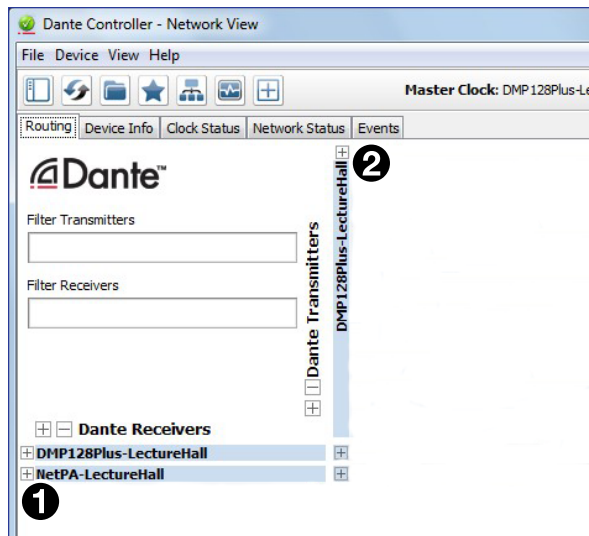

Figure 21. Network Devices
After the receive channels (❶) of the NetPA AT are named, route them to a transmit channel (❷) on the audio network (see figure 21).
2. Click the **+** box next to the **NetPA** (for example, **NetPA-Classroom-01**) in the **Dante Receivers** column to show all device inputs (see figure 21, **1** on the previous page).